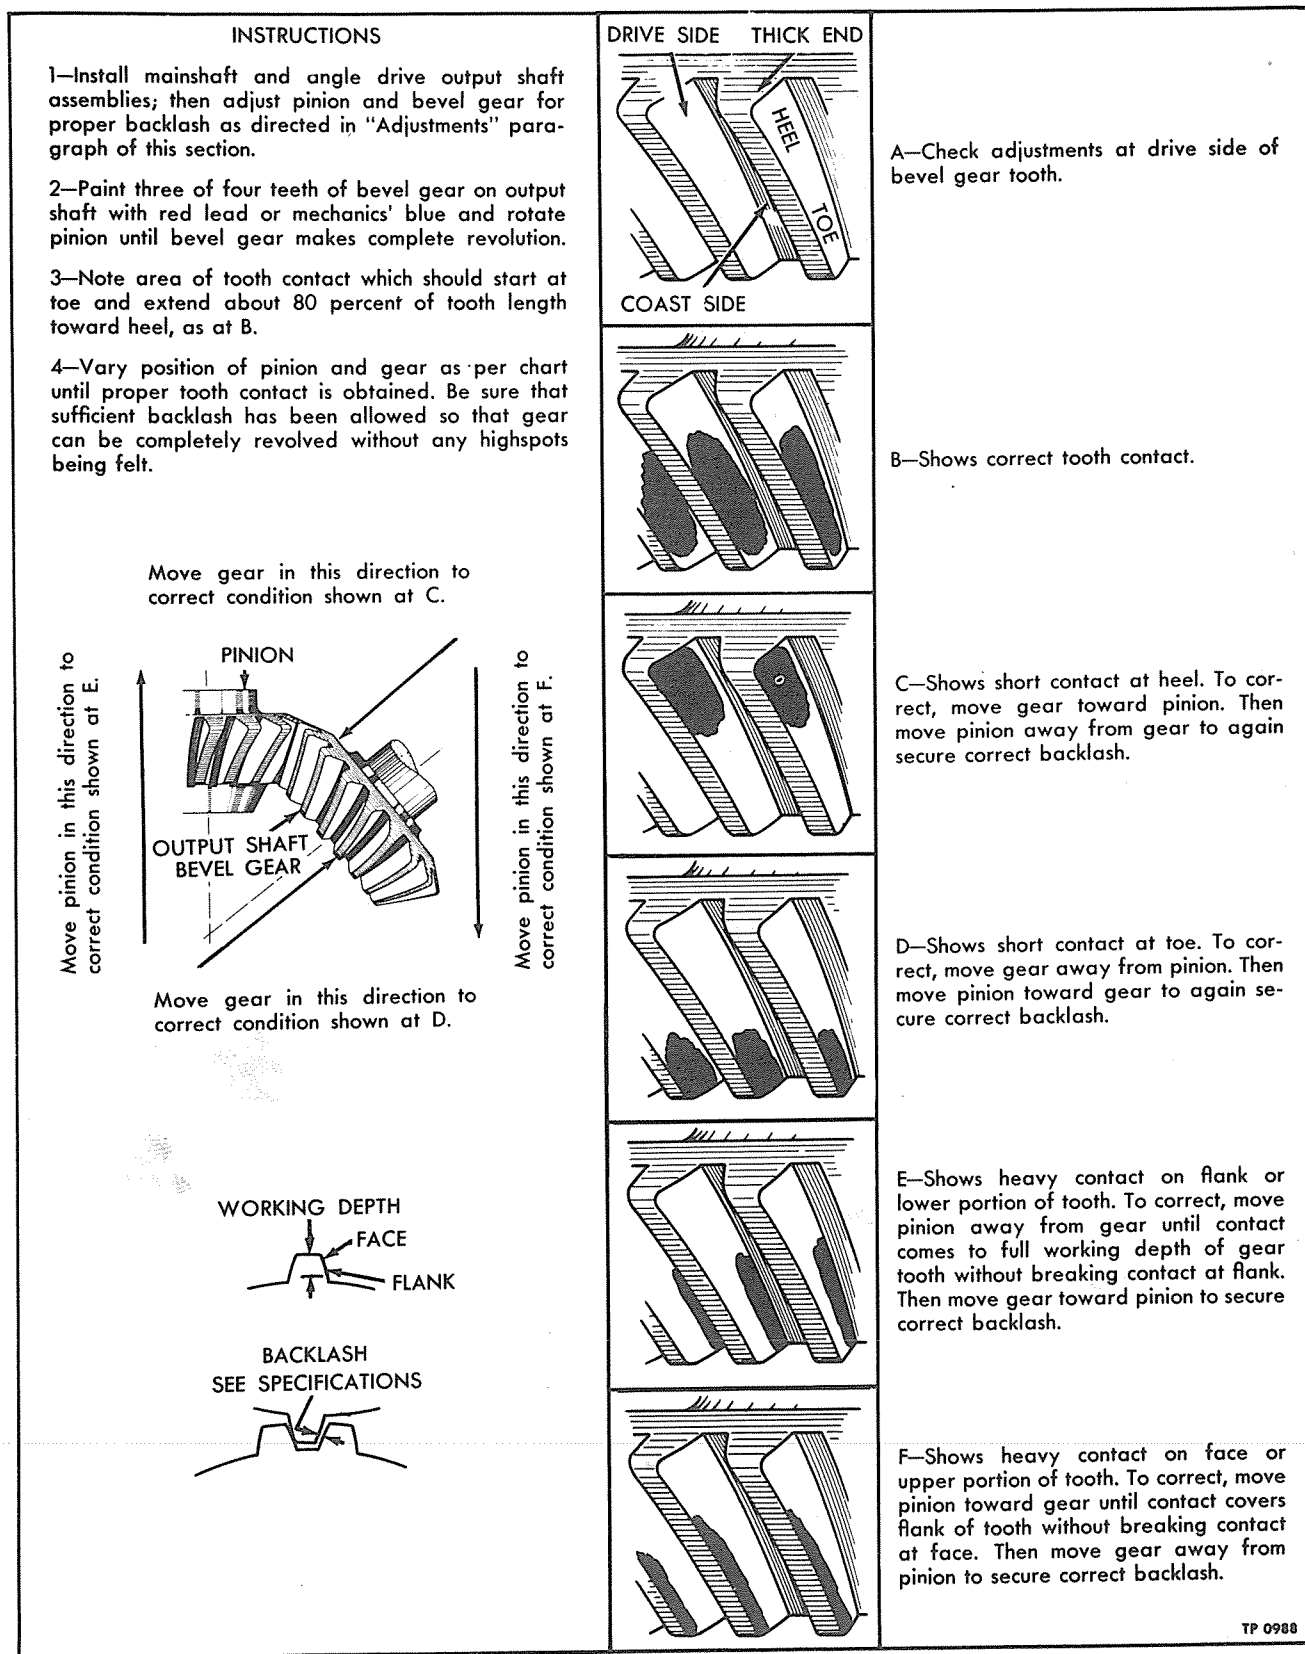

Figure 12—Angle Drive Gear Tooth Contact Chart
1. With transmission completely assembled with the exception of shims (51) between drive gear outer bearing retainer (50) and angle drive case (58) also bearing cap (45) not assembled, install puller screws in bearing retainer (50) and adjust backlash to dimensions shown on gears. If backlash dimensions on gears are not legible, adjust to .008 - .010 inch. See backlash sketch in bottom corner of figure 12.
2. Measure space between retainer (50) and angle drive case (58) with feeler gauge.
3. Select proper shim thickness and install shims, assembling retainer (50), bearing (48) cap (45) with new oil seal (46), flange (44) and nut (43).
4. Tighten flange nut (43) and cap stud nuts (47) securely.
5. Check backlash in gears again and correct if necessary by adding or removing shims (51).
1. To check for proper tooth contact paint several teeth on pinion (64) with ground red lead mixed with a few drops of engine oil. Rotate mainshaft by hand in same direction as when operating in forward speed, applying tension at propeller shaft flange at same time. Gears may be seen through filler hole in top of angle drive case (58).
2. Tooth contact impression should start at toe of tooth and extend back about 80% of tooth length toward heel on drive side of tooth. Contact should be distributed evenly over flank and face of tooth, indicating center of contact on pitch line. Refer to diagrams "A" and "B" in figure 12.
3. If tooth contact is too far out on tooth (diagram "C" figure 12), reduce shim thickness
4. If tooth contact extends back from toe appreciably less than 80% of tooth length (diagram "D" figure 12), move gear (65) away from pinion (64) by adding shims at (51). Restore backlash by reducing shims at (75).
5. If contact is low on flank of tooth (see diagram "E" figure 12) move pinion (64) away from gear (65) by reducing shims at (75). Restore backlash by adding shims at (51).
6. If contact is high on face of tooth (diagram "F" figure 12), move pinion (64) towards gear (65) by adding shims at (75). Restore back